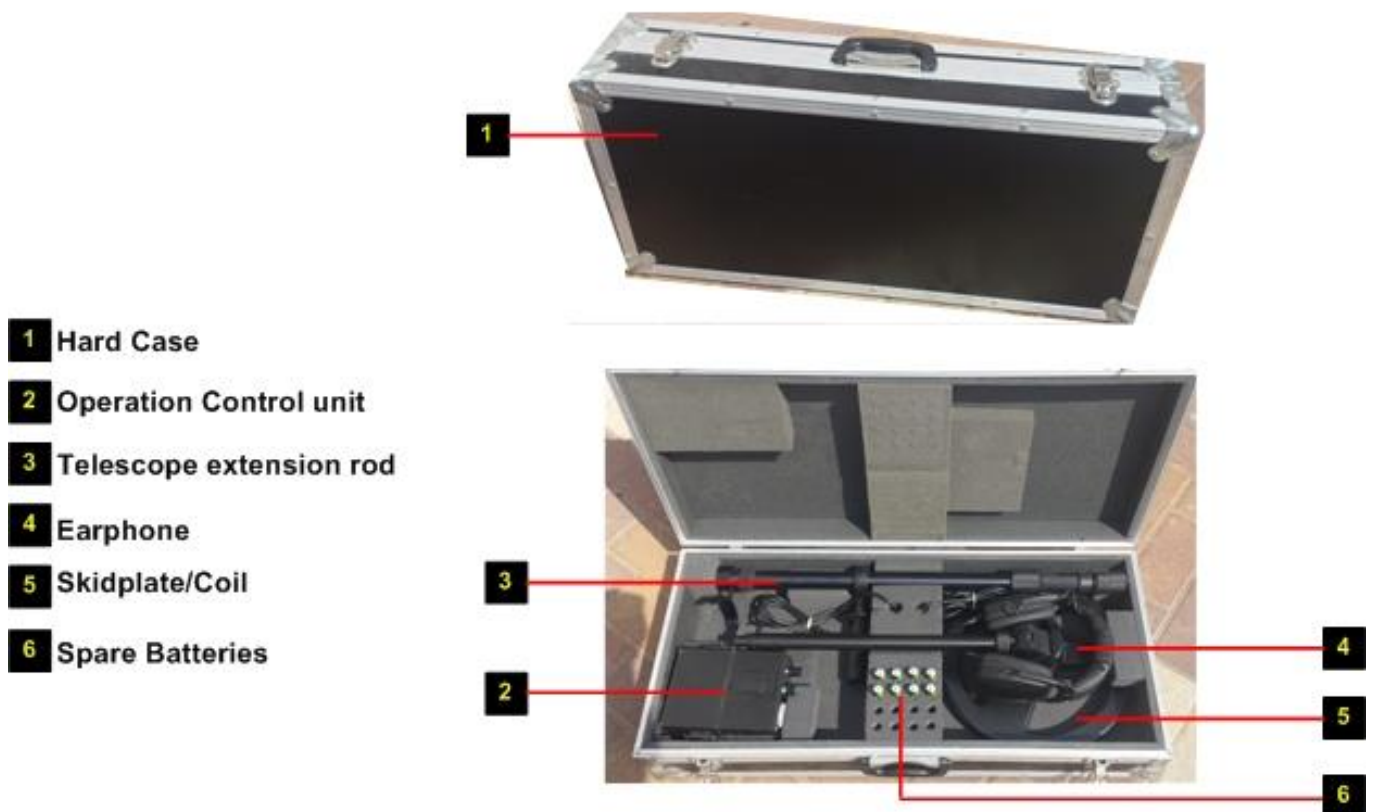

Figure 2: F3 Mine Detecting Set
2.1 Mine Detecting Set. The 605H is supplied as a mine detecting set (Figure 2) comprising:
As illustrated in Figure 2, the Hard Case includes an insert for easy placement of the 605H and its accessories. The case also provides protection for the detector and it is recommended that the 605H will be stored in its Hard Case whenever it is not in use or during transit. Failure to transport the detector in the supplied Hard Case may void warranty.